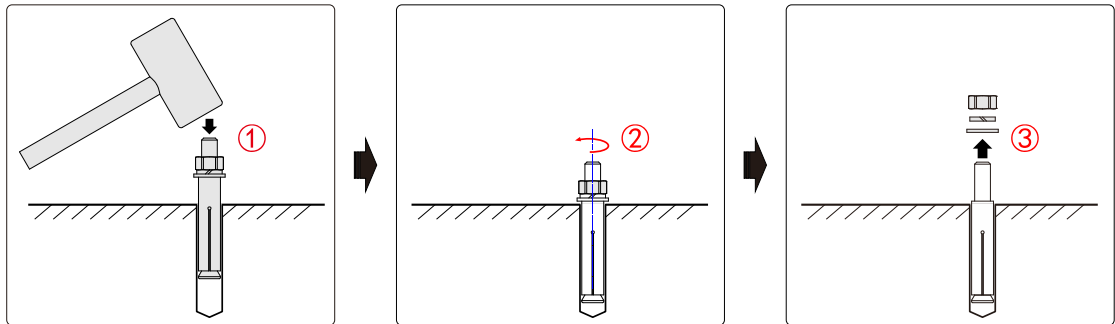

Figure3-10 Structure and installation of expansion bolt
- Step 3 Install the expansion bolts. The structure and installation of the expansion bolt is as shown in Figure3-10.